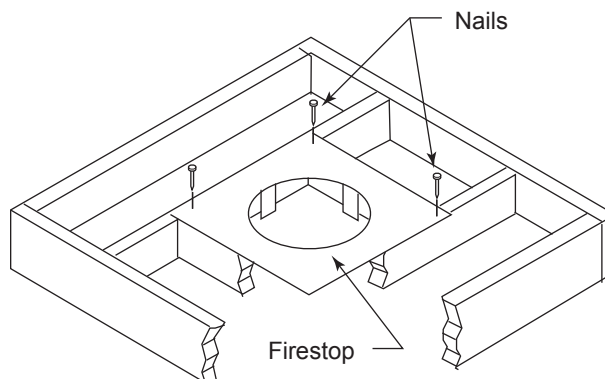
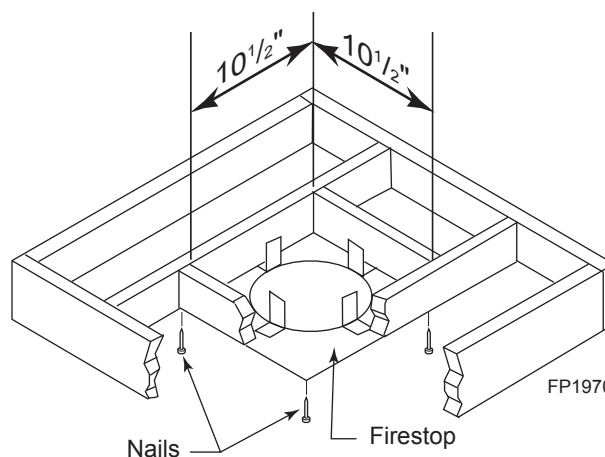

Figure 23 - If Area Above is a Room, Install Firestop above Framed Hole as Shown
Figure 24 - If Area Above is Not a Room, Install Firestop above Framed Hole as Shown
1. Cut a 10½" (241 mm) square hole in the ceiling using the locating hole as a center point. The opening should be framed to 10½" x 10½" (241 x 241 mm) inside dimensions as shown in Figure 24 using framing lumber the same size as the ceiling joist. If the area above the ceiling is an insulated ceiling or a room, nail firestop from the top side. This prevents loose insulation from falling into the required clearance space. Figure 23. Otherwise, install firestop below the framed hole. Figure 24